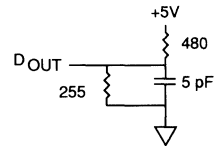

Fig. 2 OUTPUT LOAD EQUIVALENT
- tHZCE and tHZWE are tested with CL = 5pF as in Fig. 2. Transition is measured ± 500mV from steady state voltage, allowing for actual tester RC time constant.